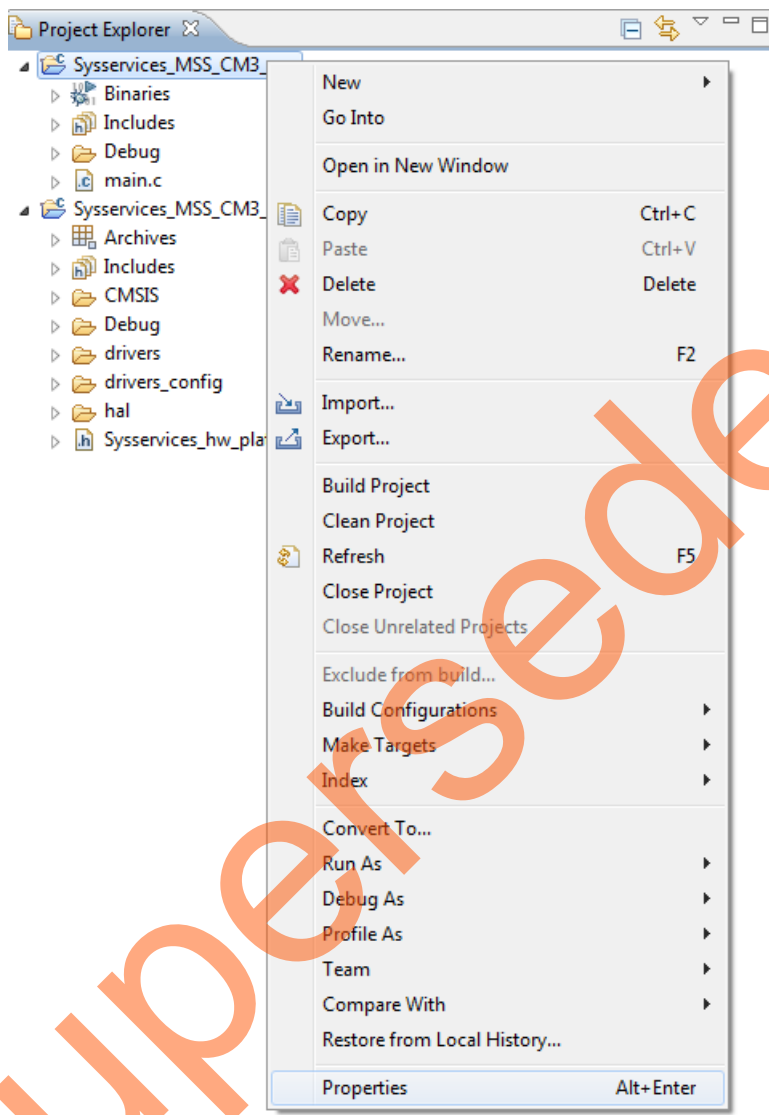

Figure 34 • Project Explorer Window of SoftConsole Project
4. Right-click **Sysservices_MSS_CM3_app** in **Project Explorer** window of SoftConsole project and select **Properties** as shown in Figure 34.